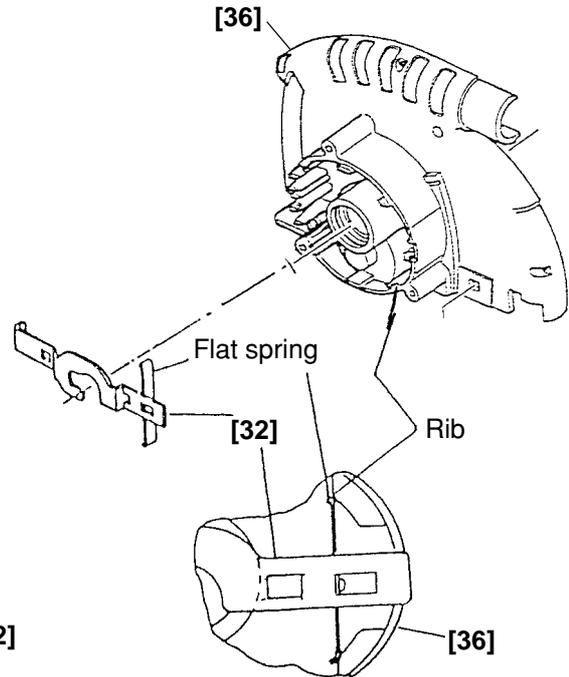

Fig. 2
(3) Reassembly of the Lock Lever [32] (See Fig. 2.):
B. Carefully ensure that both ends of the flat spring on the Lock Lever [32] are properly supported inside the ribs of the Gear Cover [36], as illustrated in Fig. 2.